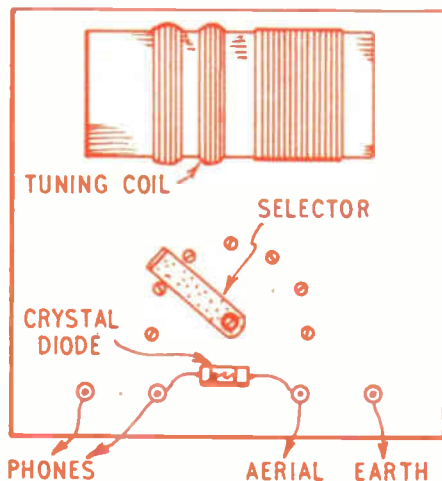

Fig. 1—Top wiring
To assemble the cradle, glue the sides (2) and slats (3) in position on one end (1), and then glue the other end in place. The relevant positions of the pieces when glued together are shown in Fig. 1.
Four holes are drilled about ¼ in. from the front edge, for aerial, earth and phone terminals, as shown in Fig. 1. The position of the selector arm pivot bolt is then marked, and seven other holes are drilled in a 1½ ins. radius from here. Eight further small holes are then drilled in the position the coil will occupy, for the tappings.
The crystal diode is connected between aerial and phone terminals as indicated in Fig. 1. It is worth using a new detector, as the receiver cannot
If a coil for both M.W. and L.W. is required, thinner wire will be required, so that enough turns can be accommodated. The M.W. section already described occupies one end of the former, as in Fig. 1. Towards the other end, the
long wave windings are placed, turns wound in compact piles. Each pile will require about 120 turns, and two piles are necessary, as shown in Fig. 1. There will thus be 360 turns in all (including the 120 on the M.W. section). Tappings are made at the following numbers of turns:—55, 65, 80, 100, 120, for M.W., and 260, 300, and 360 turns, for L.W.
Aerial, earth and phone leads are connected up as shown in Fig. 1. An out-door aerial is best, as high as can be arranged, well insulated at suspension points, and clear of walls, roof, and other earthed objects. However, in many
Put about 100 c.c. of milk in a separating funnel (Fig. 1) and let it stand overnight undisturbed. The cream rises to the surface and the milk beneath may be separated from it by opening the tap and closing it again when the decreased milk has not quite all run through. Add dilute acetic acid to the decreased milk until you have curds suspended in a clear liquid (whey). Filter off the curd through fine cotton and evaporate the filtrate to dryness on the water-bath. The remaining solid is crude lactose.